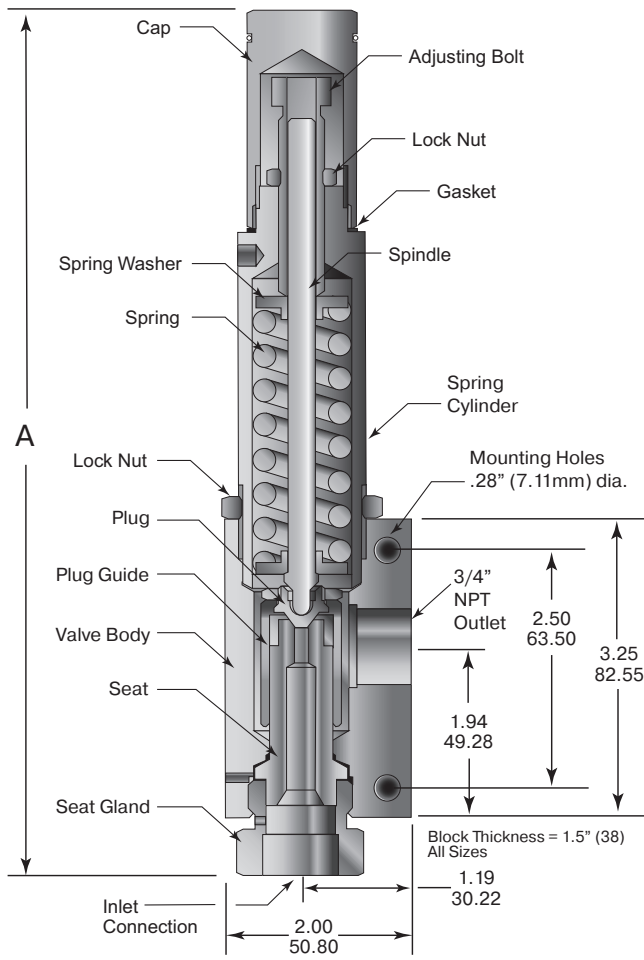
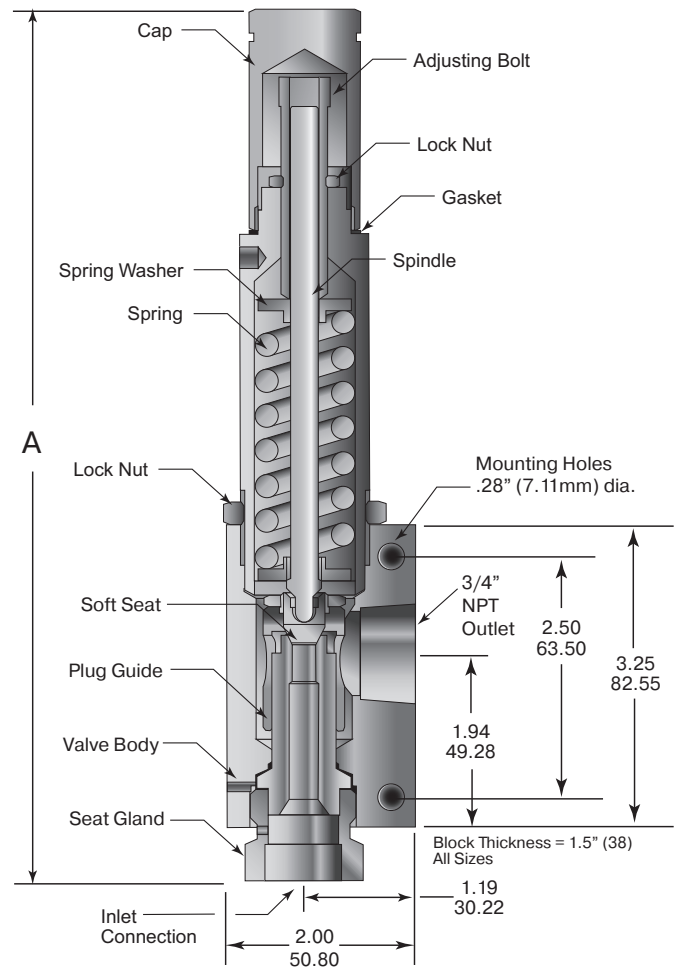

Figure 1
Figure 2
NOTE: In the event that the valve needs to be disassembled for repairs, it should be sent back to the factory since the warranty will be voided if the cable seal is broken. The following procedures should only be used if the warranty has expired. Refer to Figure 1 for part locations on the RVP valve. For RVS valves, refer to Figure 2.
- 4.4 Place the plug into the plug guide so the plug threads extend out of the top of the plug guide. For RVS valves, first place the plug in the plug guide as shown in Figure 2, then screw in the plug gland using a 1/4" allen wrench.
- 4.8 Take the spindle and place one of the spring washers on the spindle as shown in Figure 1. Be sure the flange on the spring washer faces upward toward the spring.
- 4.13 Carefully assemble this into the relief valve body, making sure that the spherical bottom of the spindle is resting in the cavity of the plug or plug gland (see Figure 1 & 2).